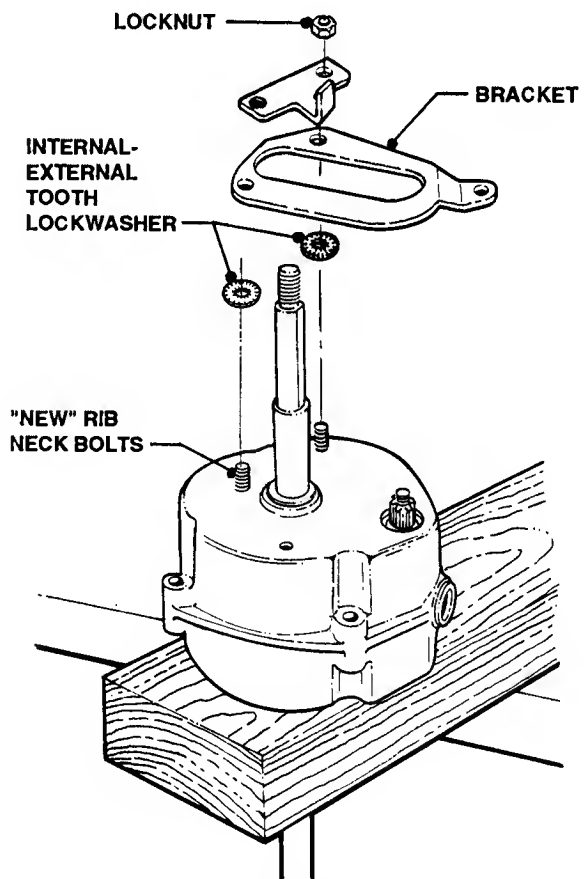

FIGURE 5.21
19. Place an internal-external tooth lockwasher over both of the rib neck bolts protruding from the Right Housing. See Figure 5.21.
20. Position Differential Bracket onto rib neck bolts. (Refer to Figure 5.21).